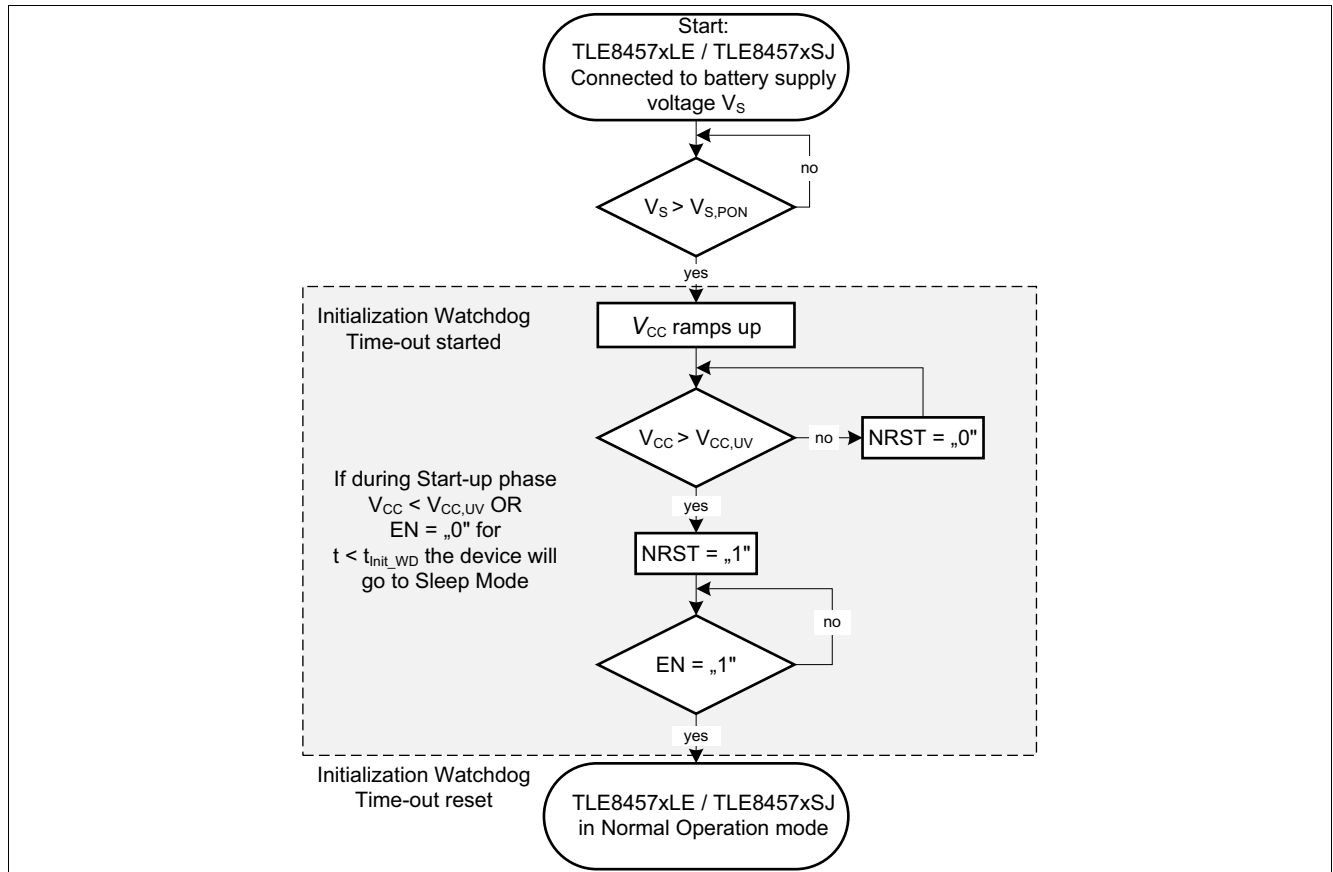

Figure 24 Power-up sequence during Start-up Phase
- the start-up phase of the TLE8457 (see Figure 24)